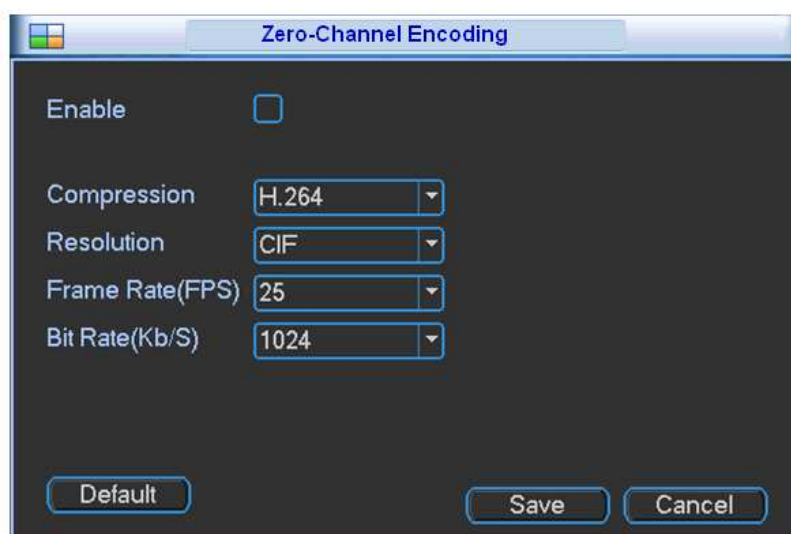

Figure 5-42
- Zero-Channel Encoding: Click Setup button, you can go to the following interface. Figure 5-42. Here you can enable and set zero-channel encoding function so that you can view several video sources at one channel.